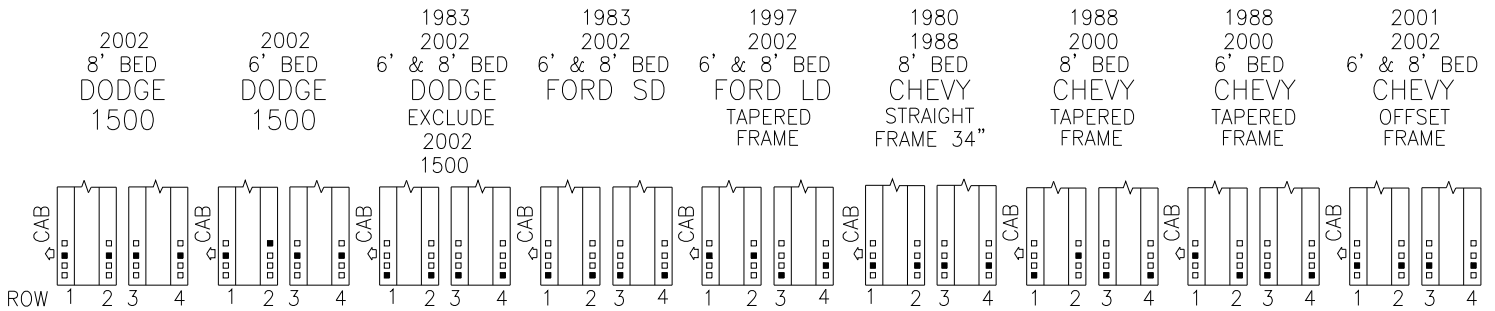

Figure 11
10. It is necessary to choose which of the available holes in each end of the Base Rails that will be used, for some trucks there is more than one choice. If possible, choose those holes that are located, relative to the channels in the bed, with enough room to insert Bed Shims (10), see page 3, either above or below the surface of the bed. You **may** consult Figure 11, this page, for pre-determined hole locations indicated by the darkened squares. The Base Rail hole locations indicated in Figure 11 are the ones to be used in the vehicle specific instruction that are covered later in this document. Note that they **may not** be the best ones to use for the hitch location you have chosen. In particular, hole selection for those vehicles with tapered frames **will** vary because the width of the frame varies as the hitch location changes.
3. Select the appropriate Base Rail Hole locations for your vehicle from Figure 11 page 8.